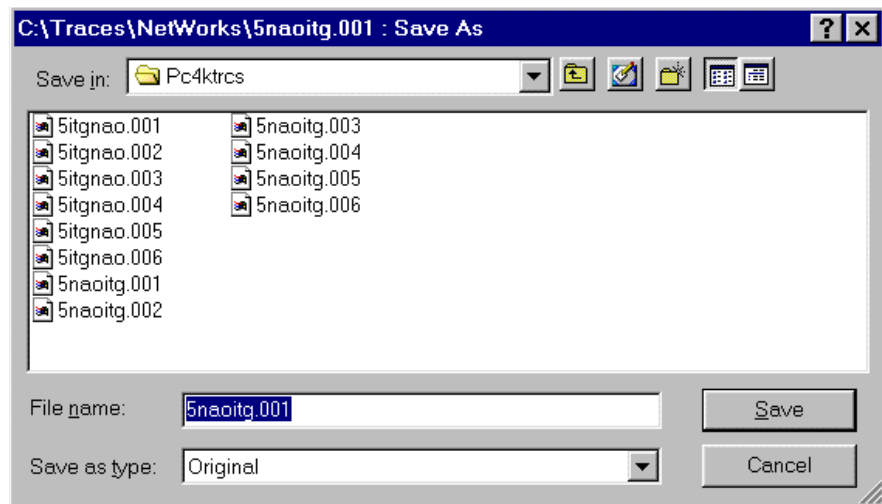

Figure 3-2: Save As Dialog Box
2. Select **Trace>Save As**. The Save As dialog box (Figure 3-2) will be displayed.